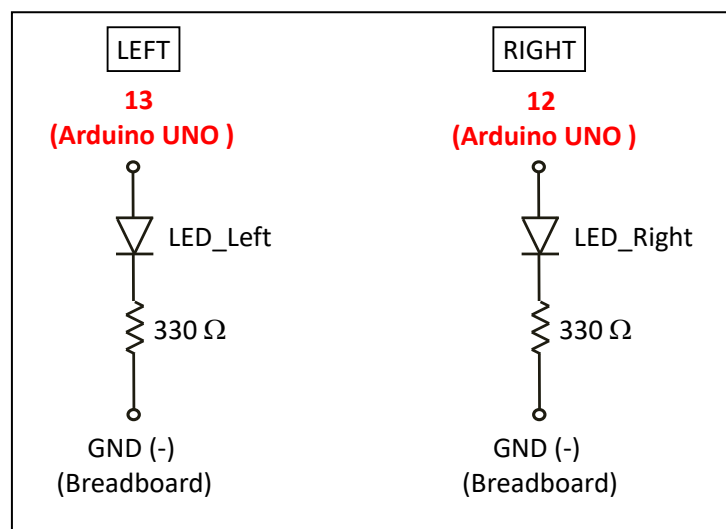

Fig. 36
5.2.10. Connect the LED circuits to Arduino UNO board, as shown in Fig. 36. Connect the motor driver circuit to Arduino UNO board, as shown in Fig. 37. Connect the LDR circuit to amplifier and amplifier circuit to Arduino UNO board, as shown in Fig. 38. You could refer to the video (video14-LDR\_motor\_connection.mp4) for demonstration.